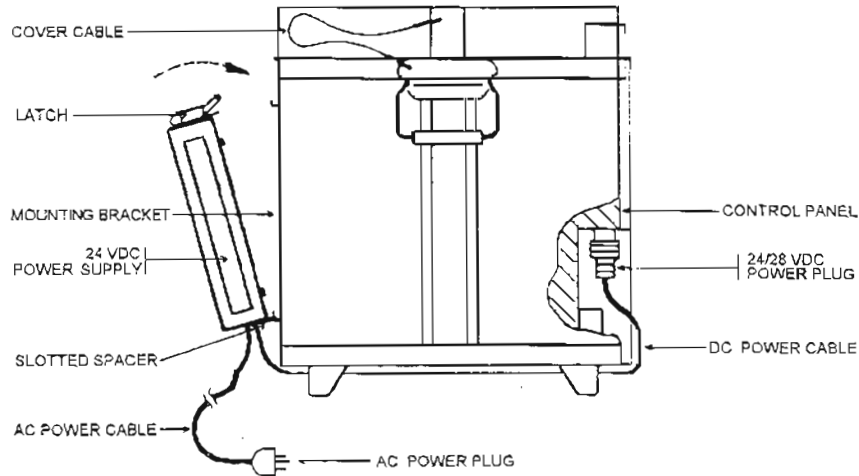

Figure 3-14. Mounting latch.
a. The power supply is mounted on the back of the refrigerator. When correctly mounted, the mounting latch (fig 3-14) will be on top. Insert the slotted spacer plate into the mounting bracket on the back of the unit and fasten the latch located on the top of the power supply assembly.